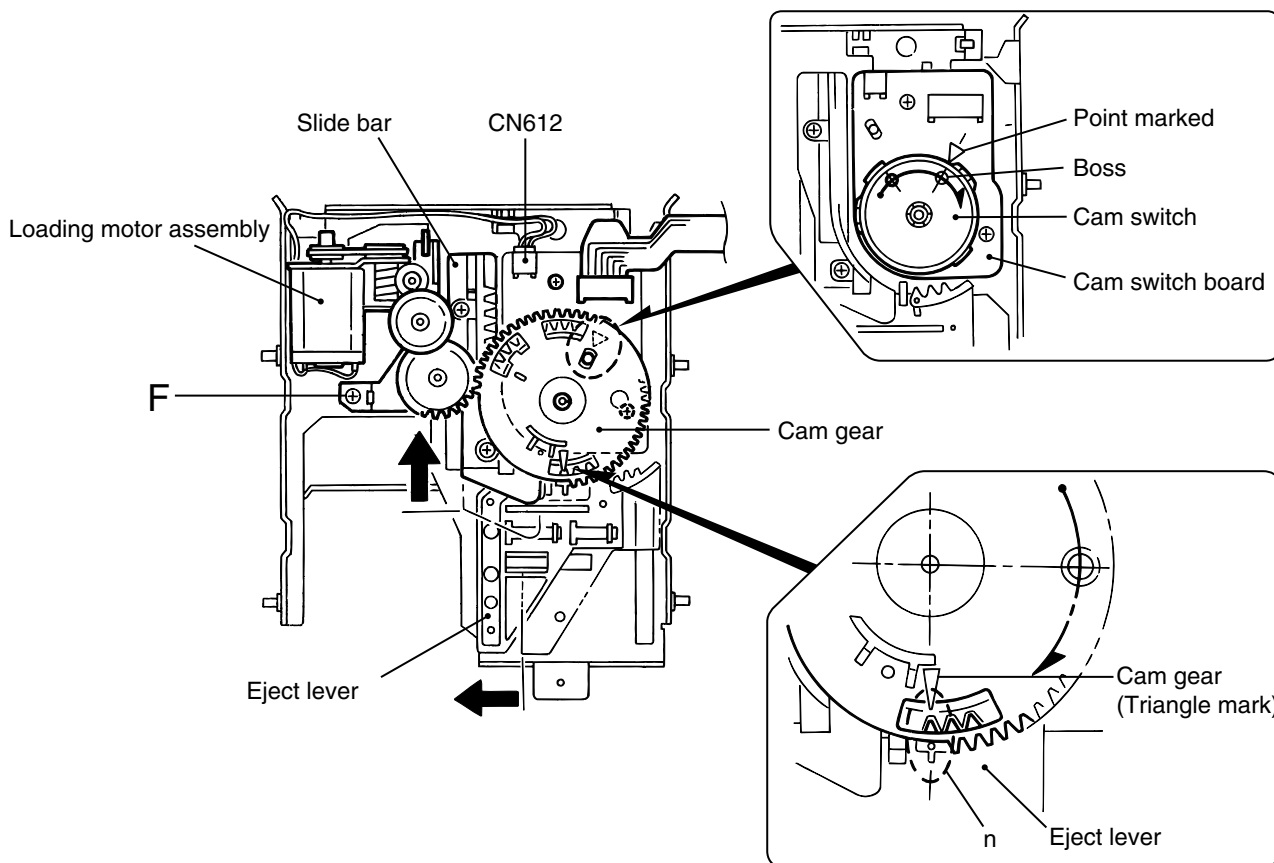

Fig.22
5. Reattach the cam switch board using the two screws H. (Fig.22)
6. Turn the cam switch to bring the boss to the point marked  $\Delta$  on the cam switch board. Reattach the cam gear using a slit washer while fitting the cam gear slot to the cam switch boss. (Fig.22)
**ATTENTION:** When reattaching the cam gear, the cam switch boss should be fitted to the cam gear slot, and the triangle mark of the cam gear should be aligned to the hole of the eject bar as shown in Fig.22.
7. Reattach the loading motor assembly, using the screw F. Connect the harness extending from the loading motor to connector CN612 on the switch board and fix it with the wire holder. (Fig.22)